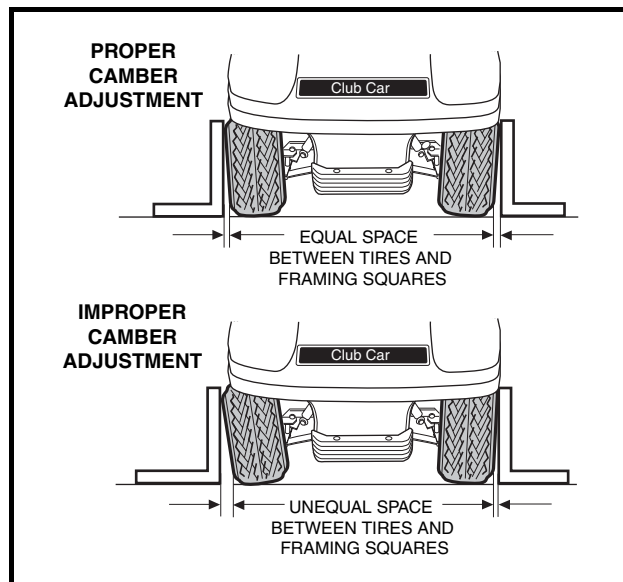

Figure 7-16 Check Camber
1. Check each front wheel with a framing square. At the floor (or ground), there should be an equal amount of space between each tire and the framing square (**Figure 7-16, Page 7-14**).
5. After adjusting camber, tighten the four spring retaining bolts (30) (**Figure 7-22, Page 7-19**) to 23 ft-lb (31 N·m). Then roll the vehicle forward one full tire revolution and recheck the camber. **See also Figure 7-16, Page 7-14.**